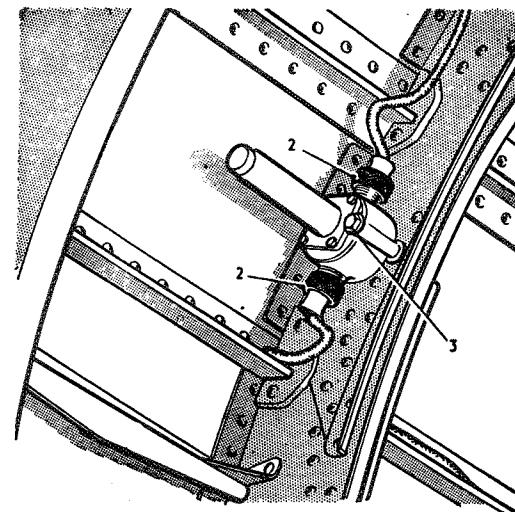

Fig. 4. Typical flame detector switch assembly
**Unit re-setting flame detector switches (fig. 4)**
#### Flame detector switches (fig. 4)